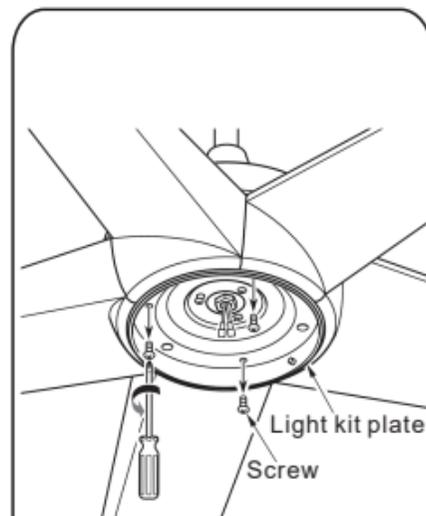

Fig.22
Step 4: Remove the 3 screws from light kit plate And connect the wires between the fan and LED assembly with the connectors.(Fig. 22&23)